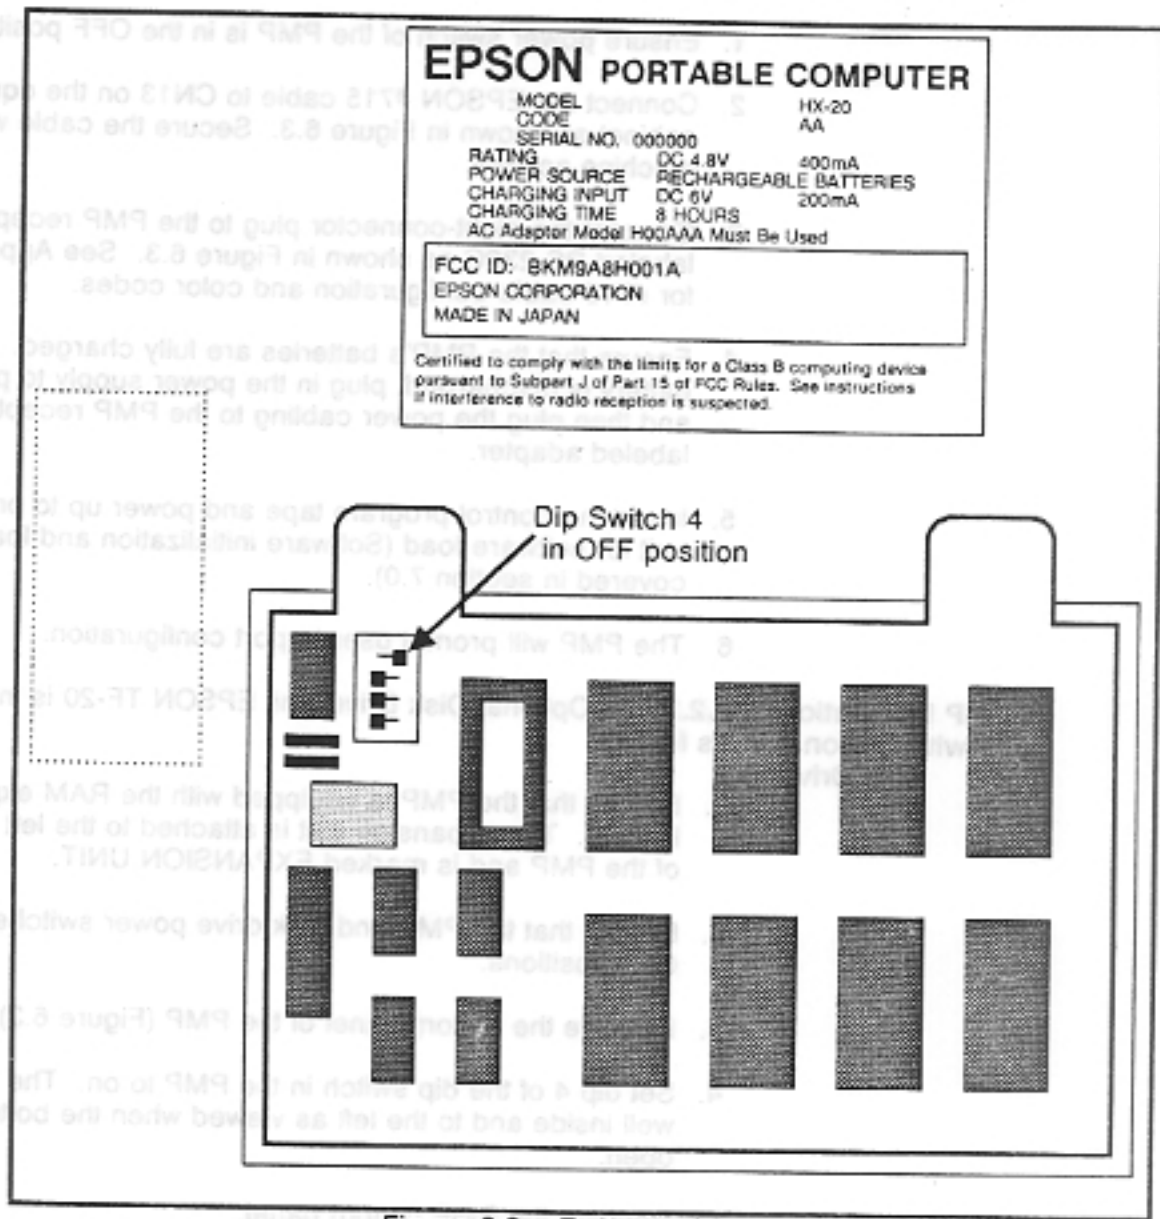

Figure 6.3 Bottom of PMP
2. Connect the EPSON #715 cable to CN13 on the equipment cabinet as shown in Figure 6.3. Secure the cable with machine screws.
3. Connect the eight-connector plug to the PMP receptacle labeled RS-232C as shown in Figure 6.3. See Appendix I for #715 cable configuration and color codes.
3. Remove the bottom panel of the PMP (Figure 6.3)
6. Connect the EPSON #707 cable between the PMP and disk drive using the connector receptacles shown in Figure 6.3.
8. Connect the EPSON 4707 cable between the PMP and disk drive using the connector receptacles shown in Figure 6.3.